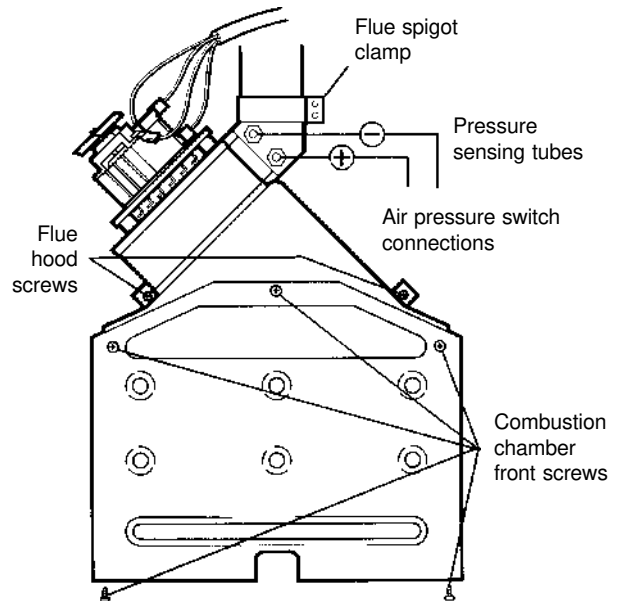

Fig. 21
8.9 FAN - Fig. 21
Alpha 240P and 280P - Connect the fan wiring, blue to terminal 4, brown to terminal 3 and black to terminal 1. Ensure the pressure tubes are connected correctly (see Fig. 21). (– and + marked on the fan outlet), and that the bottom of the combustion chamber cover is located in the burner.